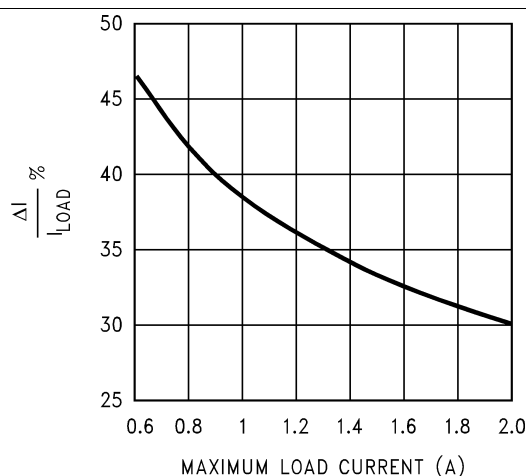

Figure 31. Current Ripple Ratio
- The nomographs were generated by allowing a greater amount of percentage current ripple in the inductor as the maximum rated load decreases (see Figure 31). This was done to allow smaller inductors to be used at light loads. Figure 31, however, shows only the *median* value of the current ripple. In reality there may be a great spread around this because the nomographs approximate the exact calculated inductance to standard available values. It is a good idea to refer to AN-1197 for detailed calculations if a certain maximum inductor current ripple is required for various possible reasons. Also consider the rather wide tolerance on the nominal inductance of commercial inductors.